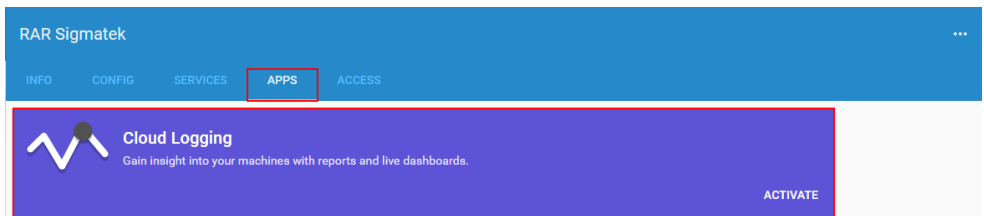

Figure 5.75 APPS tab with cloud logging activation.
2. To record data to the cloud: on RAP go to the device. Click on the “APPS” tab (Figure 5.75).